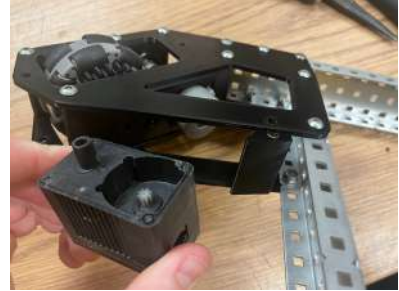

Figure 14: Motor removed from hot swap mount
4. In figure 14, the hot swap motor is placed into the drive pod. The wedge piece is then installed behind the motor to **prevent the motor from moving from the pod.**